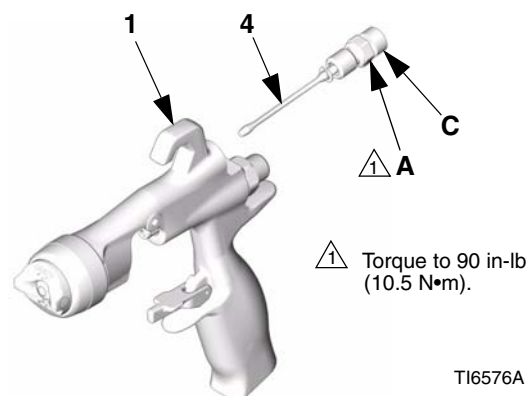

FIG. 35
2. Unscrew the fan valve packing nut (A) from the back of the gun body (1). Slide the fan valve assembly (4) out of the gun body. See FIG. 35.
3. Before reinstalling, turn the pattern adjustment valve (C) of the replacement fan valve assembly (4) completely counterclockwise to prevent damage to the seat (5c†). Install the replacement fan valve assembly into the gun body (1). Screw the packing nut (A) into the gun body and torque to 90 in-lb (10.5 N•m).